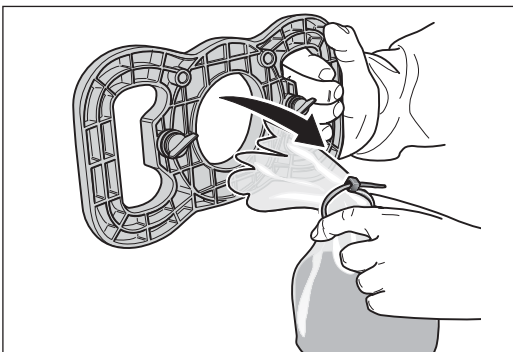
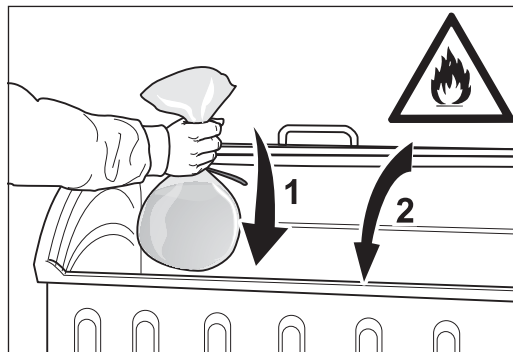

Fig. 31 Remove the waste bag from the emptying fixture.
Fig. 32 Throw the filled waste bag into a **non-combustible** container (1) and keep this closed (2) → **risk of fire!**
- **The dust bag must always be removed from the machine directly after sanding and emptied into a waste bag with the emptying fixture! Dispose of these waste bags in a non-combustible container! Cover this container with a non-combustible cover (fig. 32)!**
- 18 Remove the filled waste bag from the emptying fixture (fig. 31) and place it in a **non-combustible** container (fig. 32)! Due to the **risk of fire**, seal the container with a **non-combustible** cover!